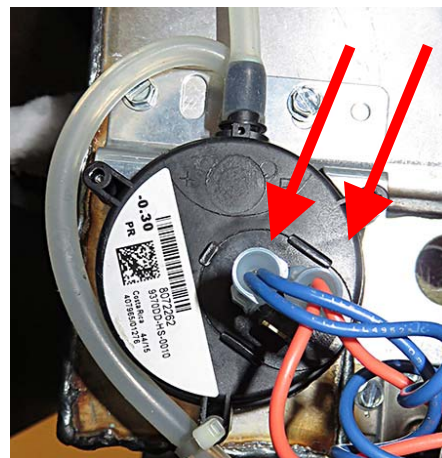

Figure 11
11. Disconnect the wires from the existing pressure switch (see Figure 11).